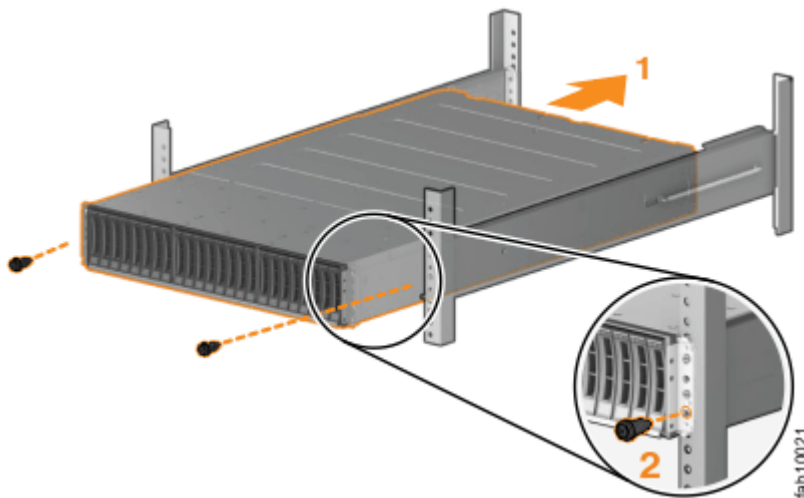

Figure 13. Inserting the enclosure
3. Slide the enclosure into the rack along the rails until the enclosure is fully inserted. See Figure 13 on page 16.